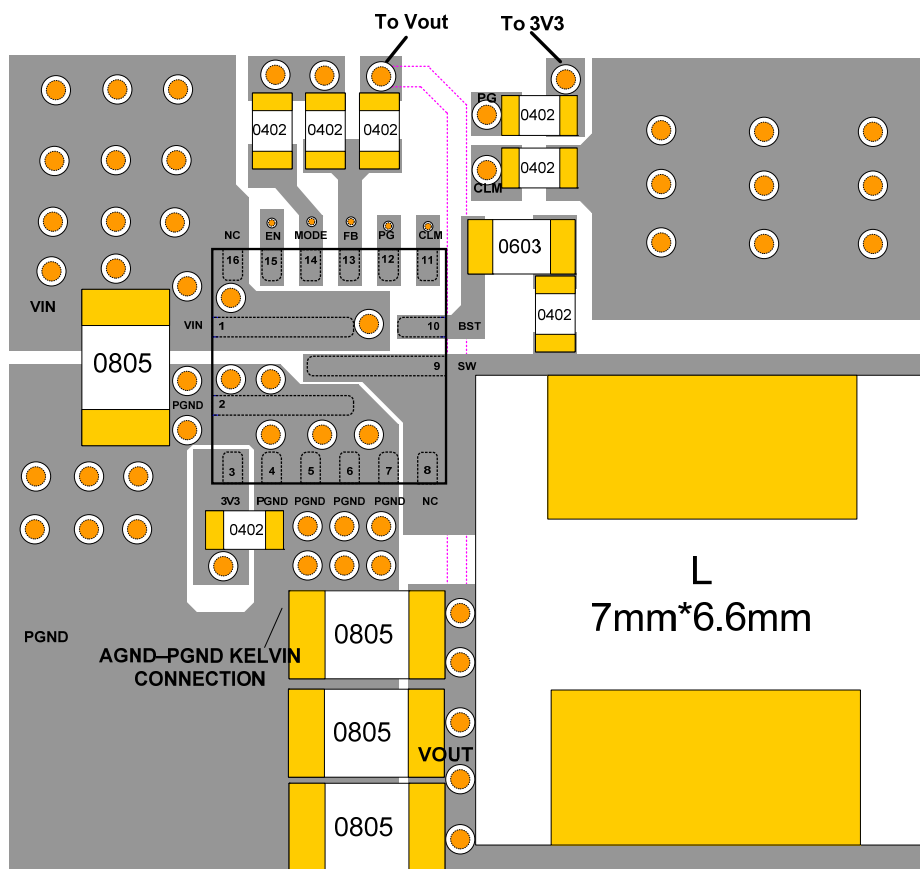

Figure 12: Recommended PCB Layout
Besides the R1 and R2 divider, the output voltage is influenced by R4 (see Figure 12). R2 should be chosen reasonably. A small value for R2 leads to considerable quiescent current loss, but a value for R2 that is too large makes FB noise sensitive. It is recommended to choose a value within 5 - 50kΩ for R2. Use a comparatively larger value for R2 when V_{OUT} is low; use a smaller value for R2 when V_{OUT} is high. The value of R1 then is determined with Equation (4):
Efficient PCB layout is critical for stable operation of the IC. A 4-layer layout is strongly recommended to achieve better thermal performance. For best results, refer to Figure 12 and follow the guidelines below.